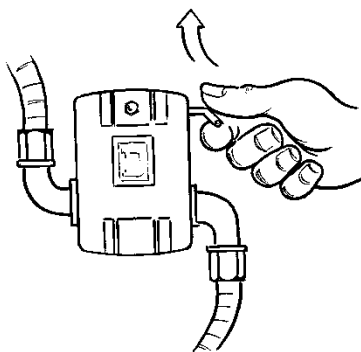

Figure CFC-1
- C. Start the CFC system by holding the **CFC SYSTEM PRIME LEVER** up (refer to Figure CFC-1) until the CFC pressure reaches approx. 20-24 psi, then release. The lever should remain in the up position. If it does not, then the CFC System is not properly primed, check the system valves to ensure they are properly opened and re-bleed the CFC pumps. Once the CFC System is properly started, the Aux. System light and UV/O³ Catalytic Chamber indicator (blue light on the side of the chamber) should be illuminated indicating that power has been applied to the CFC System. Also, the CFC Pumps will run continuously, and the Chemical Injector Pump will pump periodically. If in the event the CFC system pressure drops below 5 psi, the lever will shut down all Aux. systems to prevent equipment damage.